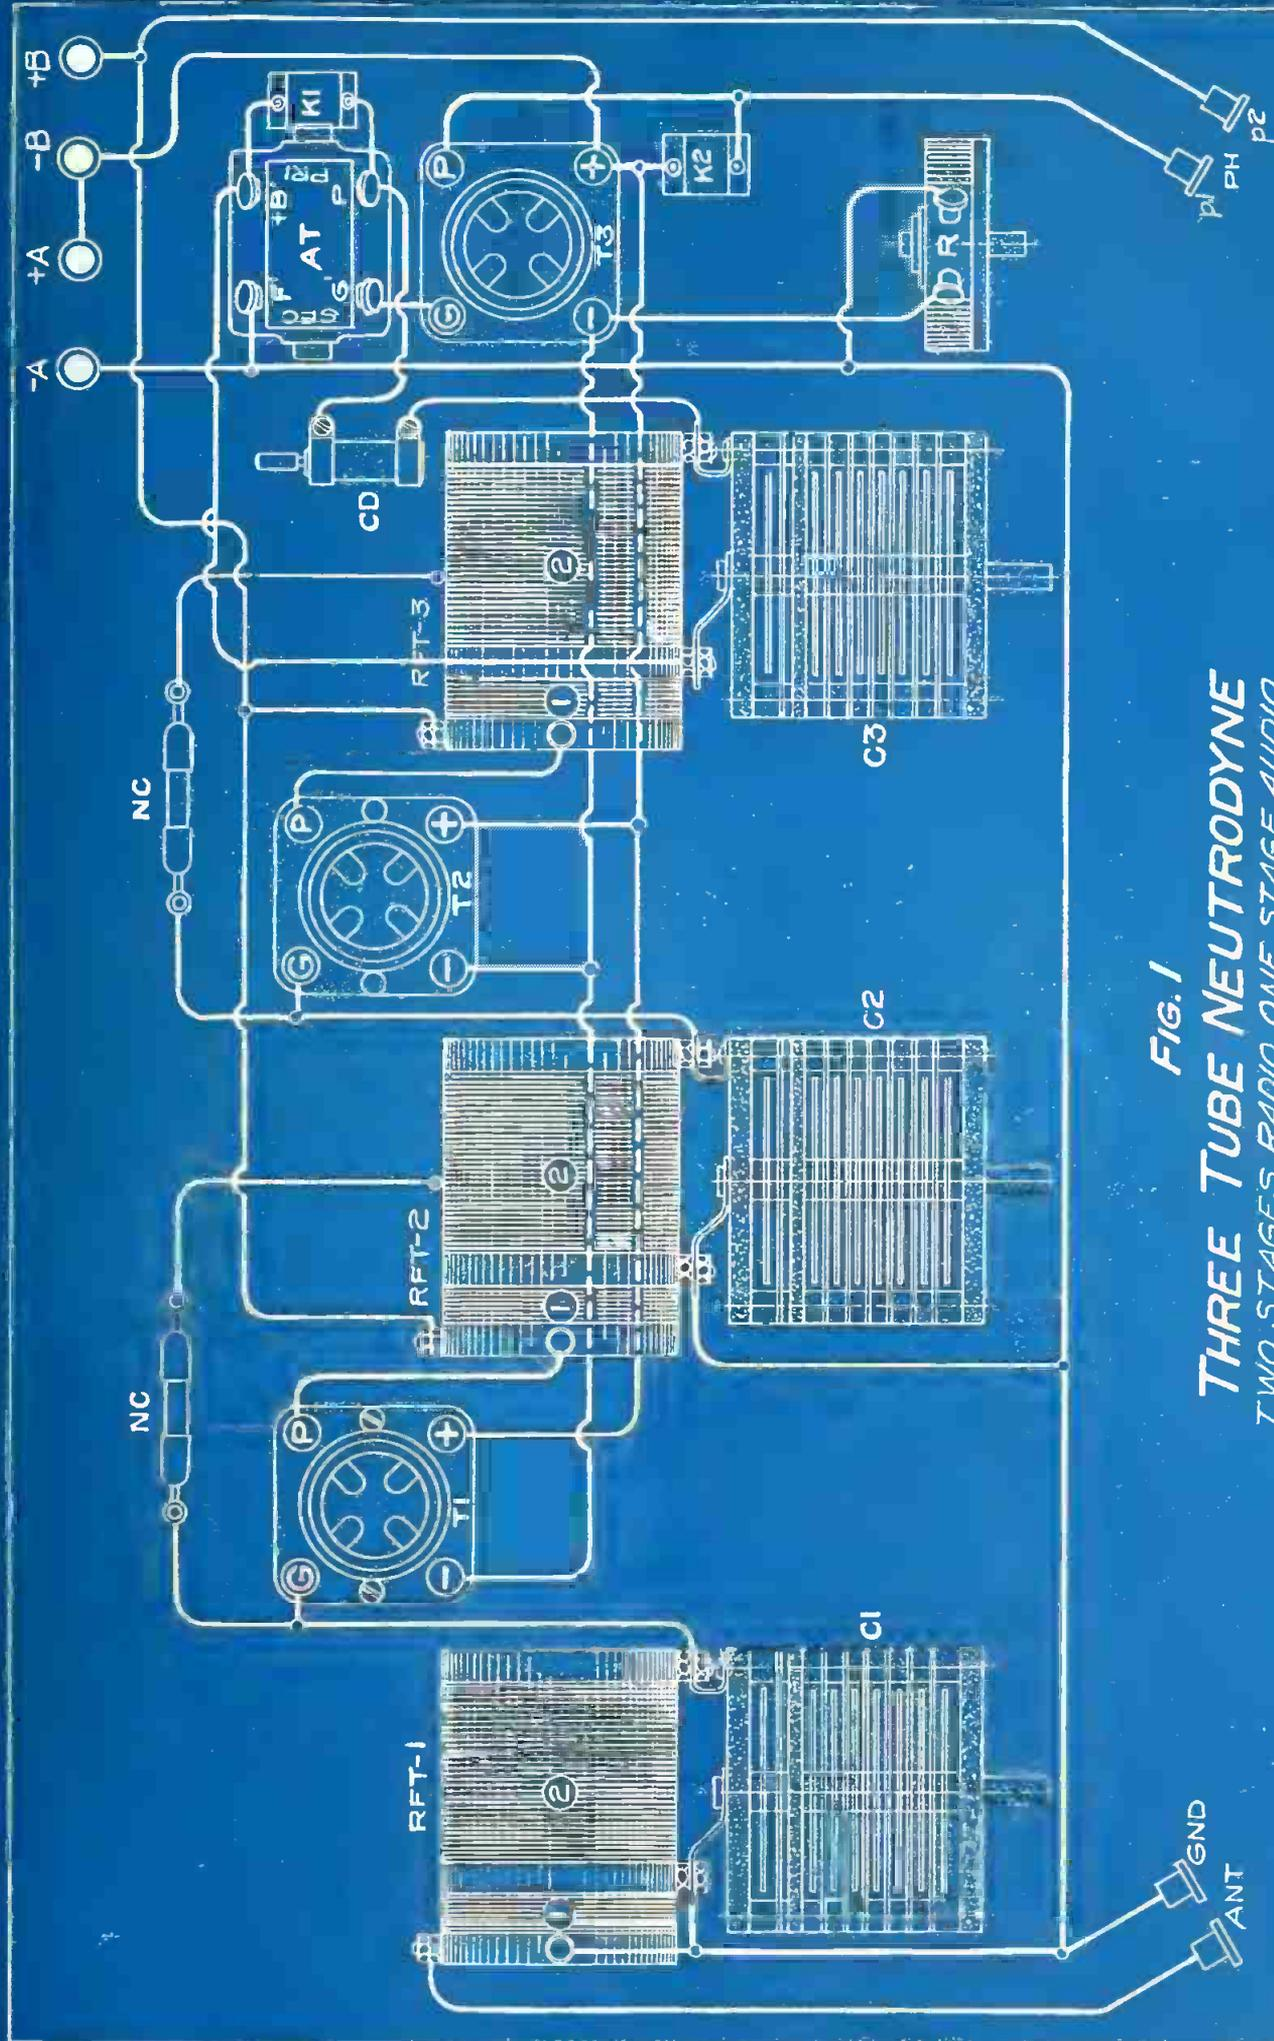

FIG. 1
TO produce the maximum range and volume, we will require a 90 volt "B" battery for supplying the plate current. This is connected between the (-B) and (+B) battery binding posts. The audio amplification will be made somewhat greater if we introduce a 4.5 vole "C" battery between the secondary transformer post (G') and the grid (G) of the tube (T3). Full details of this arrangement were shown on Data sheets JJ-9-25 and JJ-9-26 of the September RADIO AGE. The installation in Fig. 1 of data sheet JJ-9-26 shows the installation exactly as it would be made. Be sure that the negative (-) post is connected to the (G) post of the socket.
After the circuit has been wired up according to the diagram in Fig. 1, with the apparatus located as in the isometric view of Fig. 3, we can connect the batteries, insert the tubes, and then make the neutralizing adjustments. With the tubes lighted up to normal brilliancy we can tune in some local station by means of the variable condensers until we obtain maximum volume. Now note the position of the dials on the condensers, and after loosening the dial, set the screws and turn them until the same number on each dial comes exactly opposite to its stationary pointer. This will save much time in tuning, as we are now able to get all three condensers in exact agreement by turning to the same number on each dial.